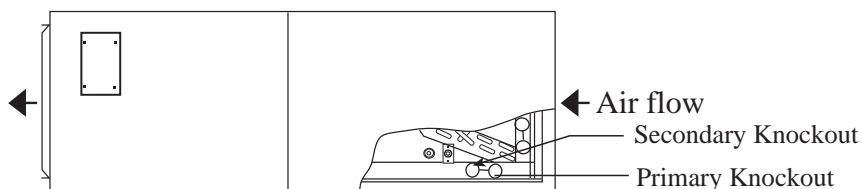

**Fig.1**
- 2) Remove J-shape metal bracket. Slide out from the Airhandler cavity the "A" coil pan assembly with horizontal drain pan on the right side. Remove oval gasket from horizontal pan drain and also remove the plastic drain cover from the lower left access panel. Fig. 1.